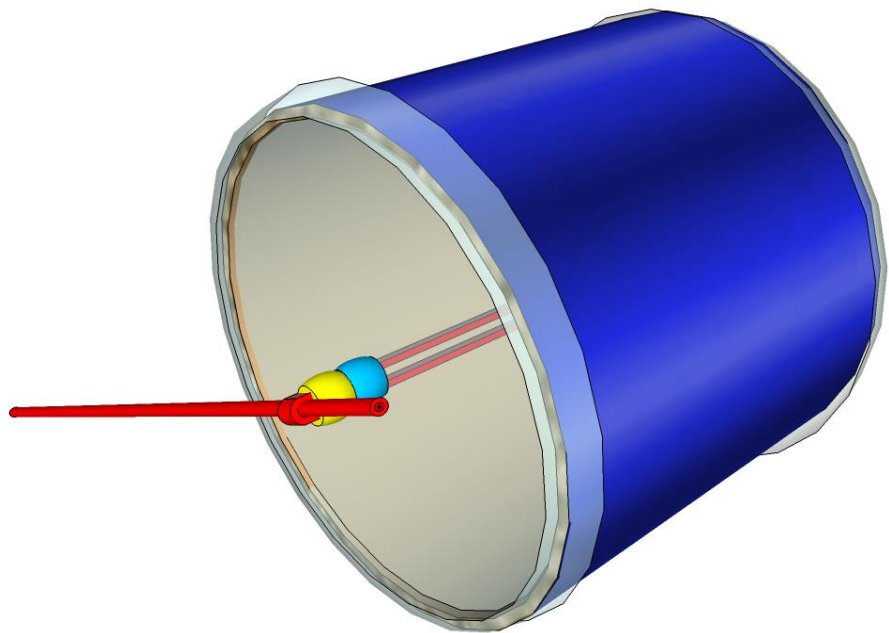

Figure 1
- 2** Being careful to keep the straw still, set the Roller Racer on a smooth surface, see figure 1. If the 2 beads have become tilted, move the straw so that the beads are at a right angle to the lid.